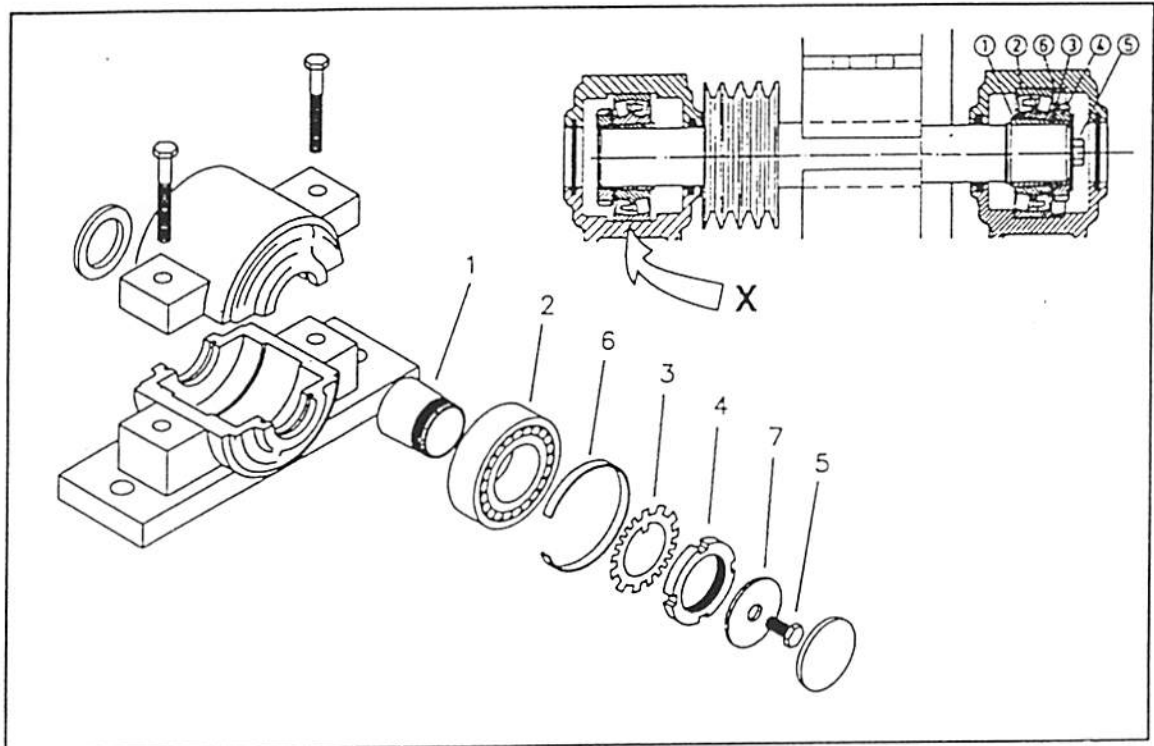

Fig.15. Bearing assembly
5. Remove bolt #5 (see fig.15.) and the washer, and pull out the old bearing.
- The bearing on the pulley end of the axle is mounted so that it rests in the middle of the pillow housing (see fig.15., position X).
3. Remove the ring bushing #6 (fig.15.).